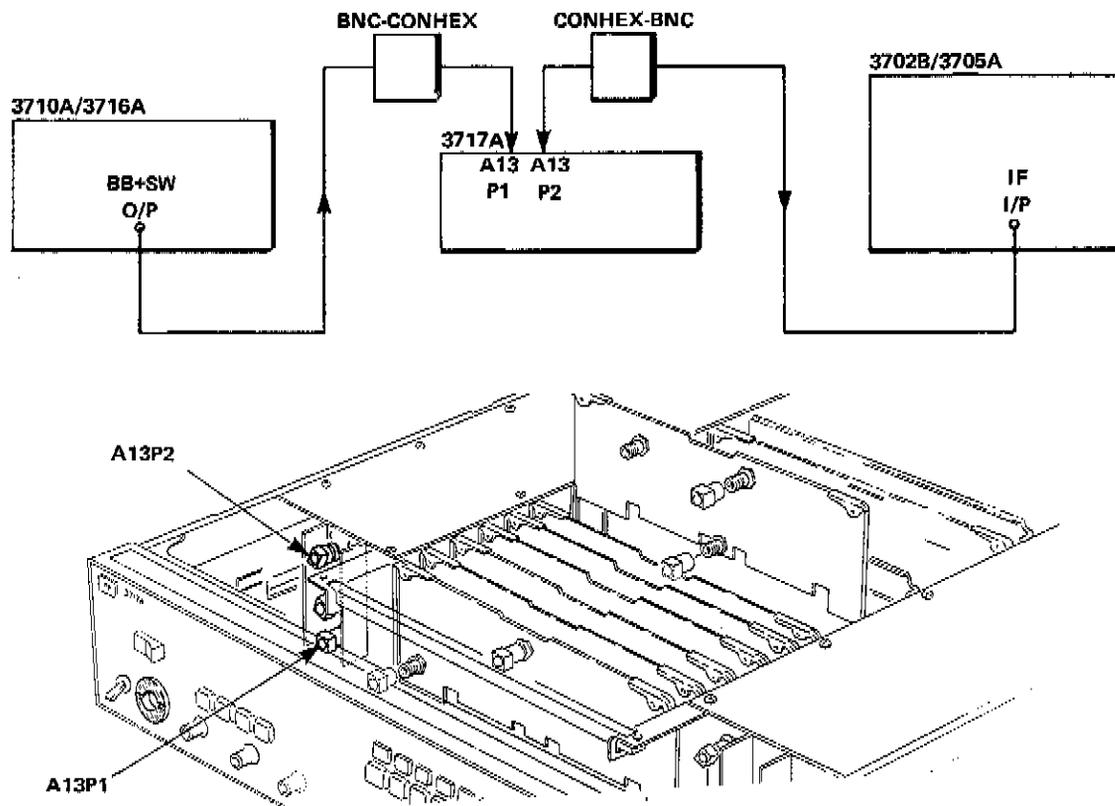

Figure 5-5 Modulator Adjustment Setup and Location of A13P1 and P2
1. Connect the equipment as shown in Figure 5-5. Set the controls as follows: